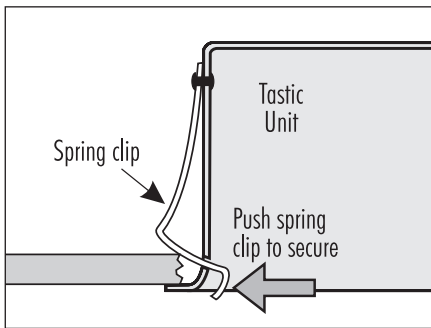

Fig. 10
5. To secure the Tastic in position, push lower ends of springs apart (Fig 10). Ceiling board thickness should be adjusted to enable springs to be fitted without excessive force.